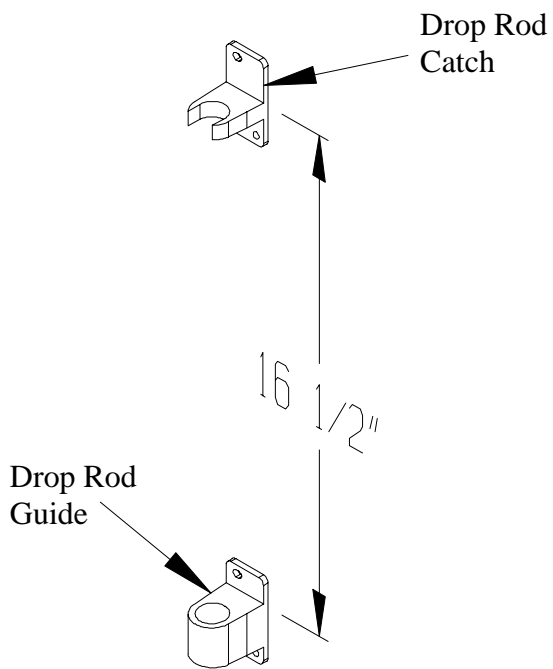

FIGURE 9
5.1. Mount a drop rod guide two (2) inches from the bottom of the gate by drilling two (2) 7/64" holes and fastening the guide with two (2) # 6 x 1/2" self-tapping screws. Fasten the drop rod catch 20 inches above the bottom of the gate in the same fashion as the guide. Before fastening the catch, use the drop rod to align the guide and catch. See Figure 9.